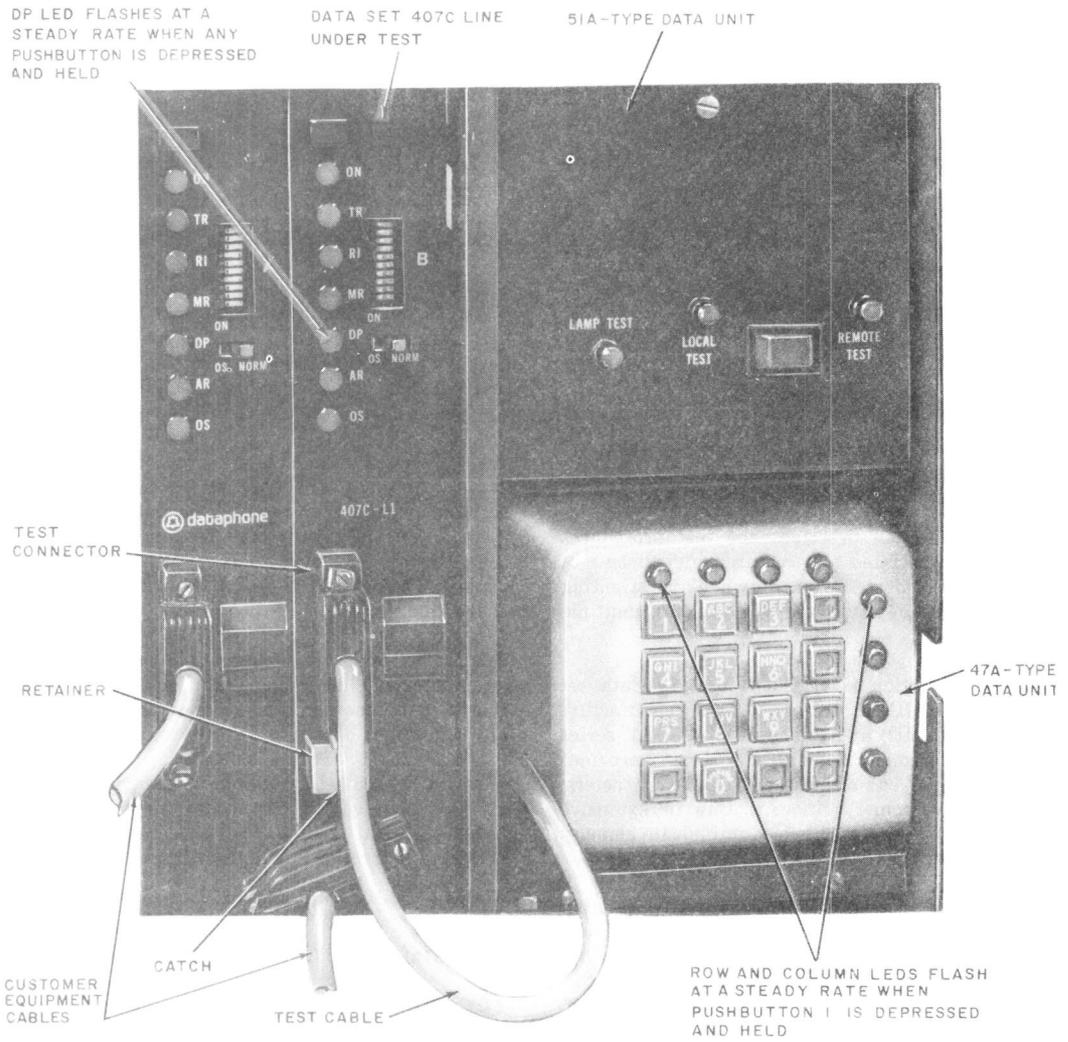

Fig. 1—Data Set 407C Test Arrangement
1.06 When a data set is placed in the remote test mode, the data set is connected to a service line and then tested by a data test center (DTC). The local test may be conducted by the customer or telephone company (telco) employee using the test unit. A typical test arrangement is shown in Fig. 1.
Requirement: Associated row and column LEDs (on the 47A-type data unit) and DP LED (on the data set line being tested) flash at a steady rate (10 pulses per second). Refer to Fig. 1 for an example of which LEDs are flashing on the 47A-type data unit when pushbutton 1 is depressed.
6	Depress and hold pushbutton 1 on the 47A-type data unit. Requirement: Associated row and column LEDs (on the 47A1 data unit) and DP LED (on the data set line being tested) flash at a steady rate (10 pulses per second). Refer to Fig. 1 for an example of which LEDs are flashing on the 47A-type data unit when pushbutton 1 is depressed.